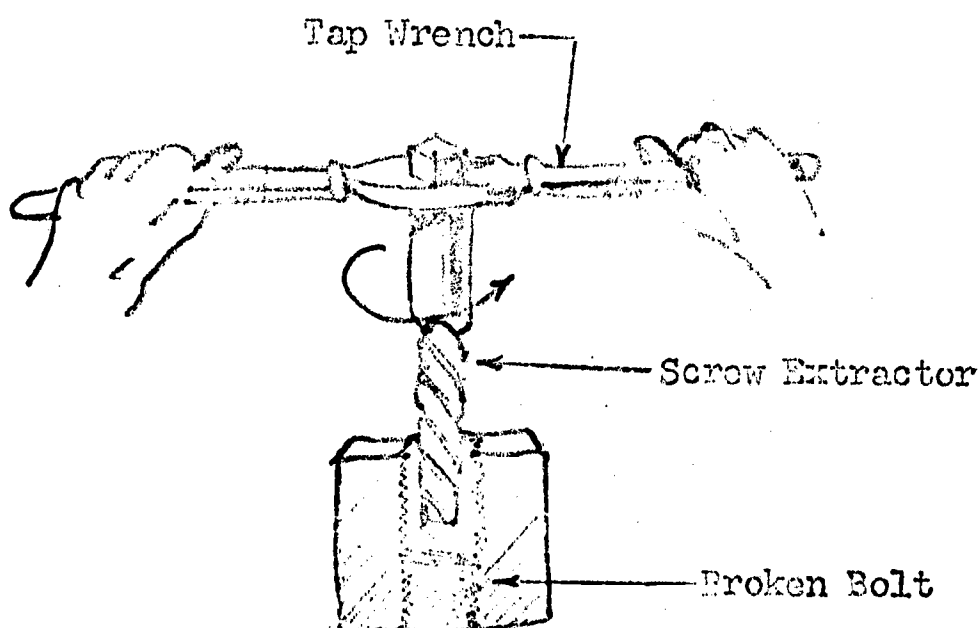

Fig. 1
4. Mount and tighten a tap wrench on the extractor and then turn it to the left (counterclockwise) until the bolt backs out. See Fig. 1.